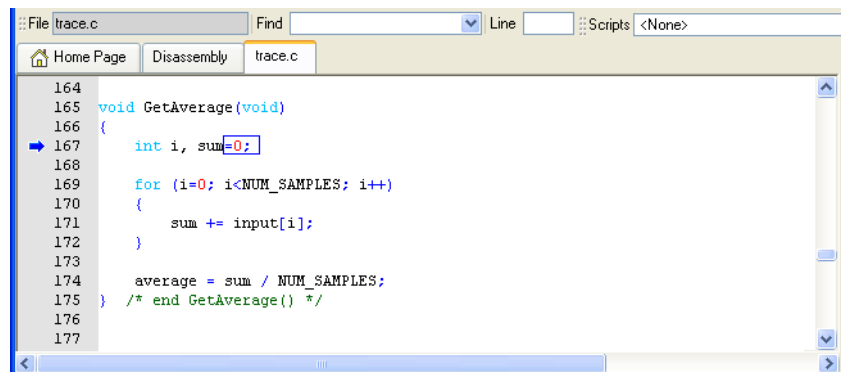

Figure 10-26 Source code corresponding to searched function
6. Click the **trace.c** tab in the Code window. The current context is at the entry point to `GetAverage`. Figure 10-26 shows an example: